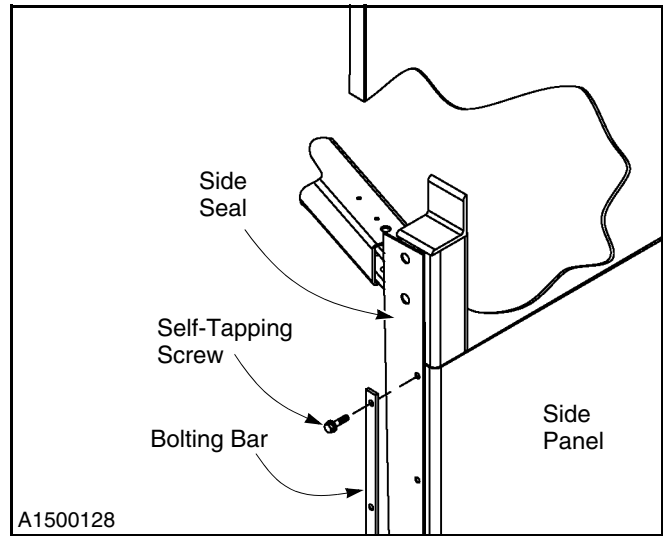

Figure 69
3. To release the side seal, remove the bolting bar from the side panel. Self-tapping screws hold the bar in place. Save all hardware. (See Figure 69.)